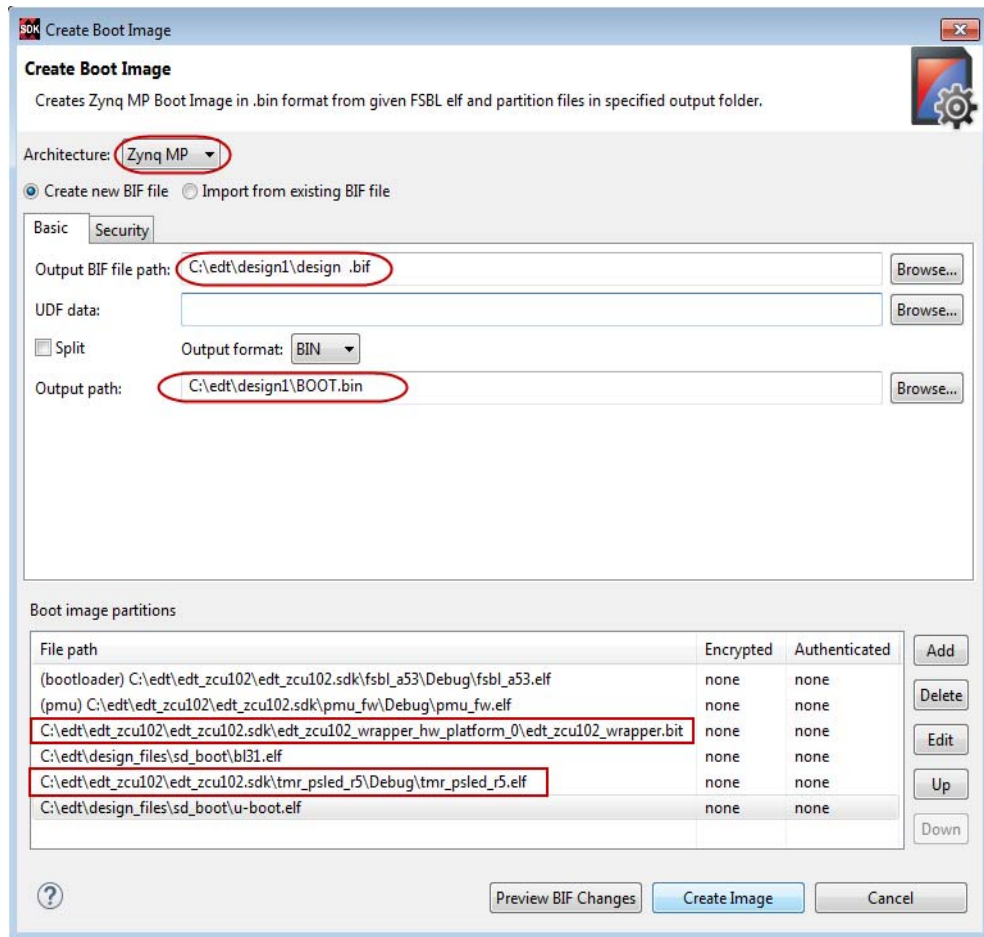

Figure 6-19: Create Boot Image for SD Boot Mode
4. See Figure 6-19 for settings in the Create Boot Image wizard.